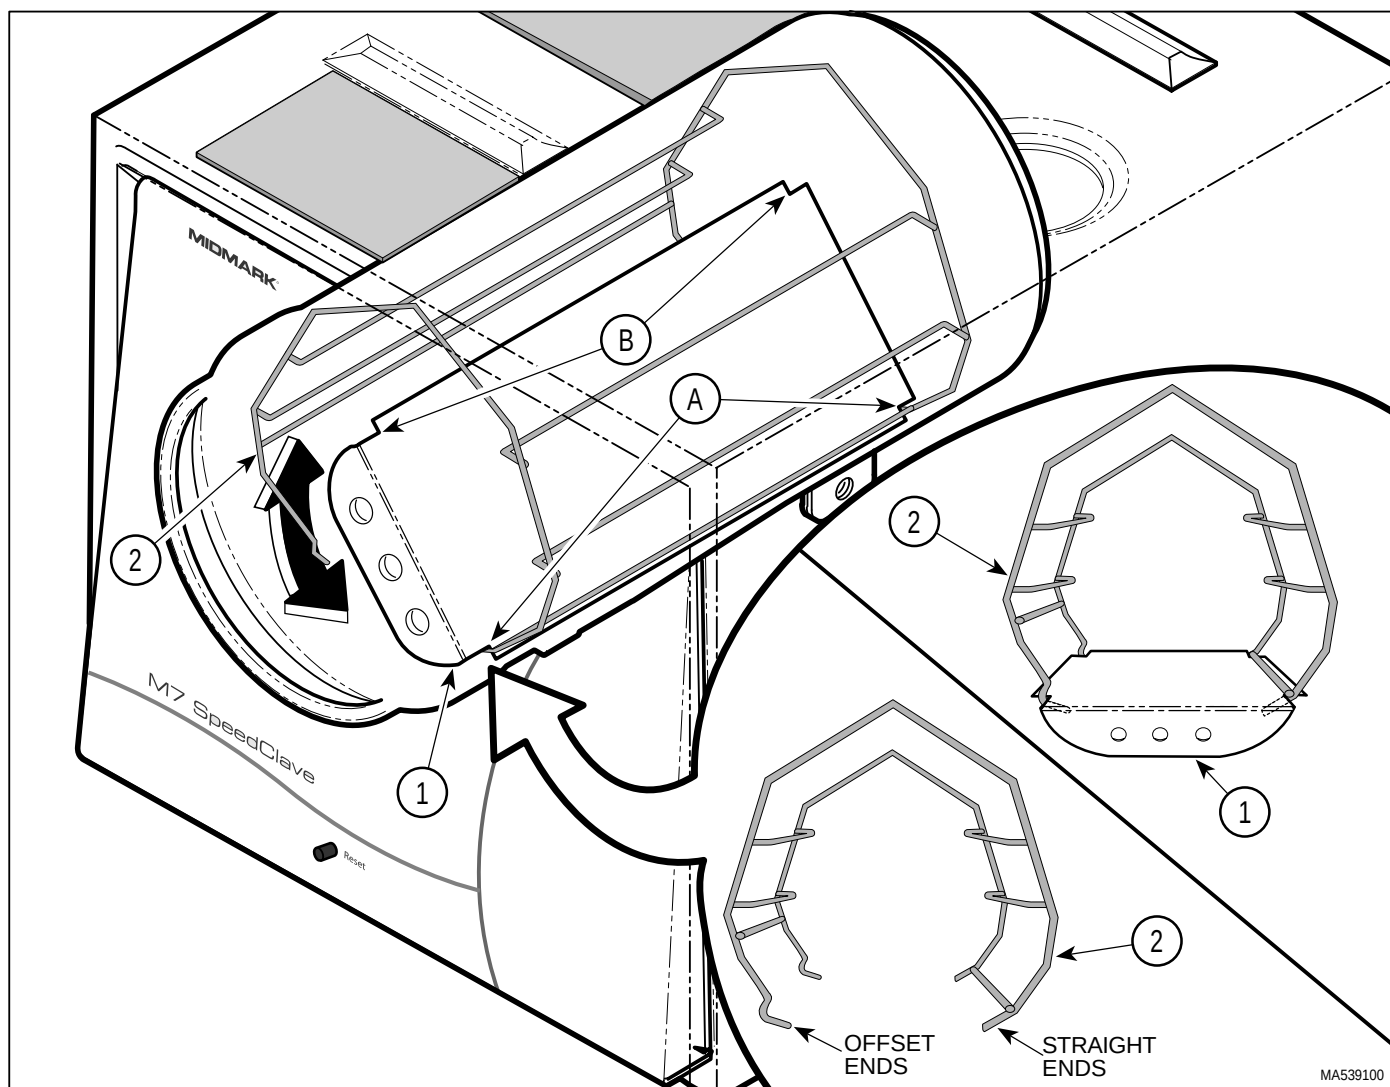

Figure 4-19. Wire Rack And Tray Plate Removal / Installation
- (1) Remove trays from chamber.
- (2) Lift up on left edge of tray plate (1, Figure 4-19) until tray plate "pops" free of wire rack (2).
- (3) Hold tray plate (1) in a vertical position, and remove from chamber.
- (4) Gently squeeze bottom of wire rack (2) together and remove from chamber.
Be sure to install the wire rack so that the straight ends of the rack are on the right side of the chamber, and the offset ends of the rack are on the left side of the chamber (see Figure 4-19).